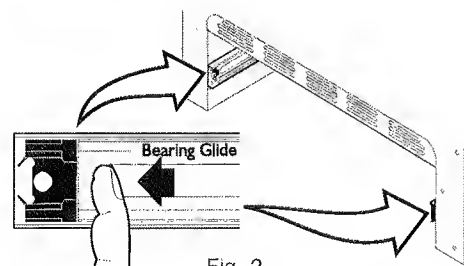

Fig. 2
2. **Pull the bearing glides to the front** of the chassis glide (see figure 2).